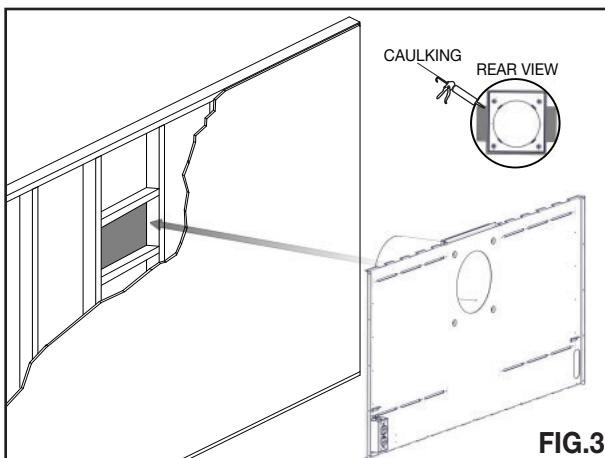

FIG.3
- G. Apply a bead of caulking (not supplied) to the flange perimeter and wings of the firestop plate. Install the wall mounting plate assembly with the vent shield into the wall. (**FIG. 3**)